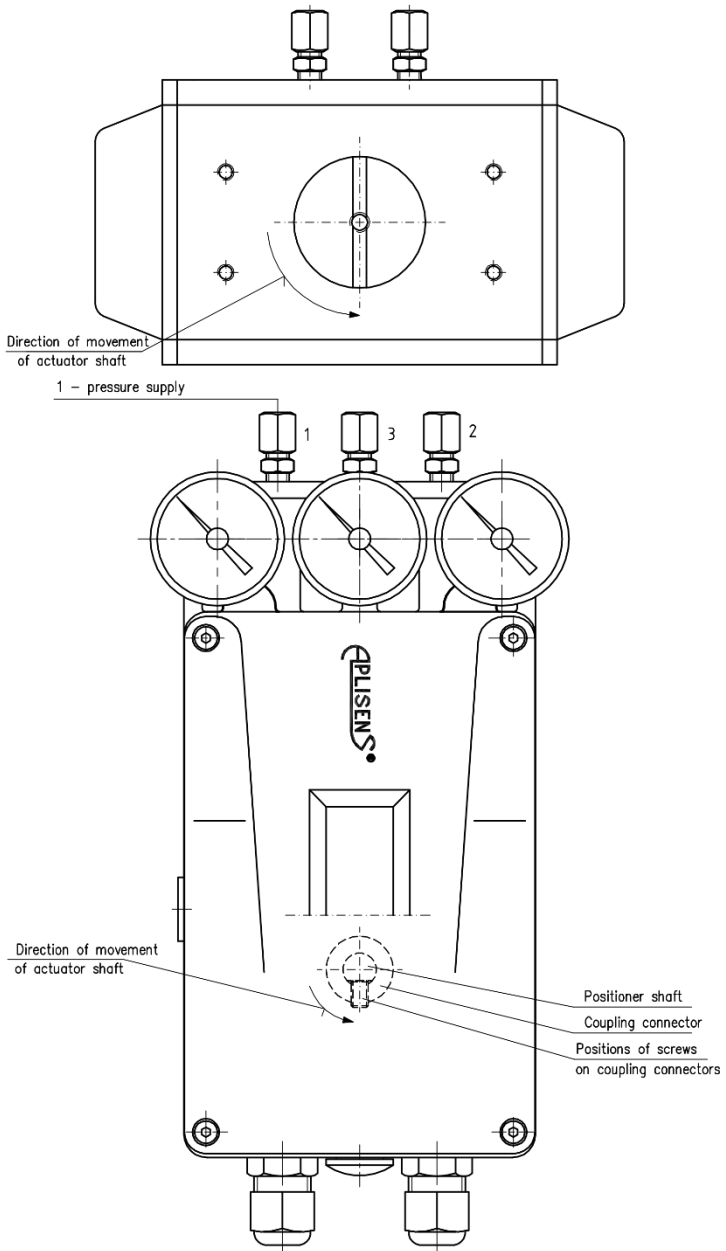

Fig. 10. Mounting position of the APIS-1X0... and APIS-2X0... positioner with respect to single-acting or double-acting actuator with rotational movement.
- b) Install the coupling connector on the positioner shaft by tightening it lightly with two M5 screws. Pay attention to support both fixing screws on flat bevel on positioner shaft - see Fig. 10.
- e) Check the direction of actuator shaft movement and position of screws on the coupling connector - Fig. 10.